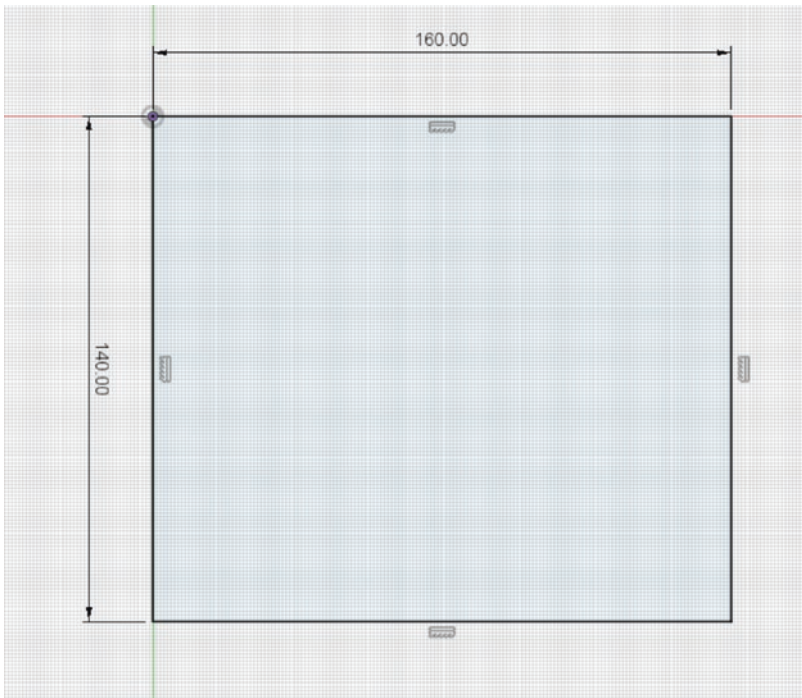

Figure 6-52. *Create a rectangle*
3. Start a new sketch and create a rectangle 160mm by 140mm. See Figure 6-52.